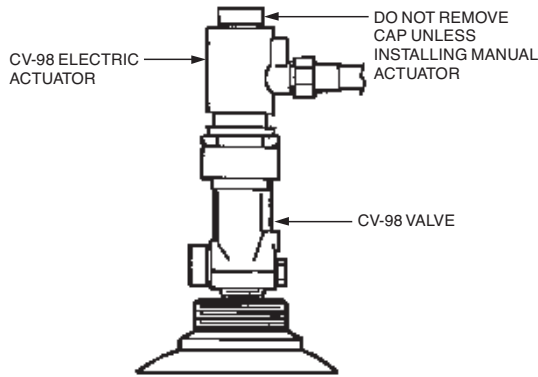

FIGURE 7
3. Thread the CV-98 electric actuator onto top threads of CV-98 CO₂/INERGEN valve. (Do not exceed 10 ft. lb. (13.6 Nm) torque.) See Figure 7.